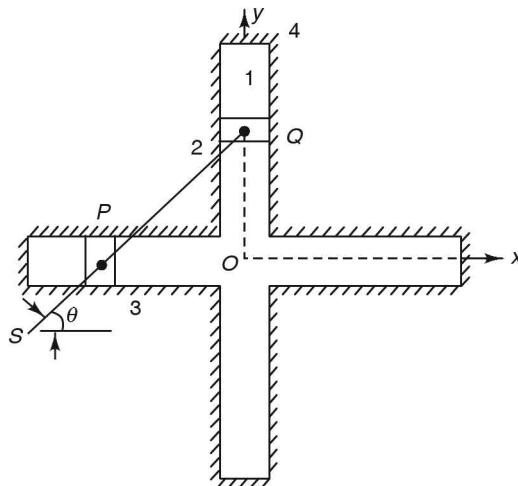

FIGURE 7.26 Elliptical trammel.
- (a) *Elliptical trammel*: In this mechanism (Figure 7.26), the slotted frame (link 4) is fixed. Any point S on the link PQ (link 2) will trace out an ellipse. This can be verified as under: